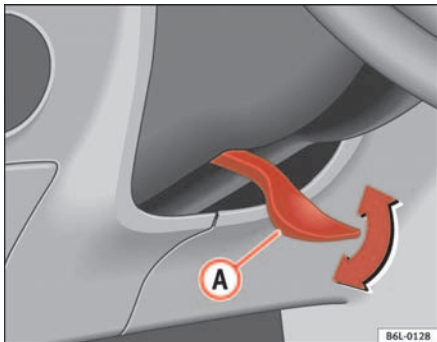

Fig. 92 Adjusting the steering wheel position
- Push the lever under the steering column ⇒ fig. 92 down ⇒ ⚠.